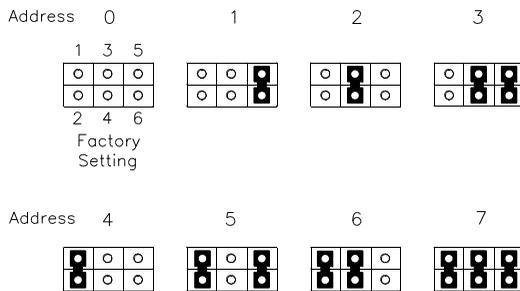

Figure 2 Jumper settings for the SCSI ID
2. Install the jumpers on the jumper block to obtain the correct SCSI ID for your configuration. Figure 2 shows how to position the jumpers for SCSI IDs 0 through 7.
4. Change the settings on the remote switch to the correct SCSI ID for your configuration. The switch settings should emulate the jumper positions shown in Figure 2.